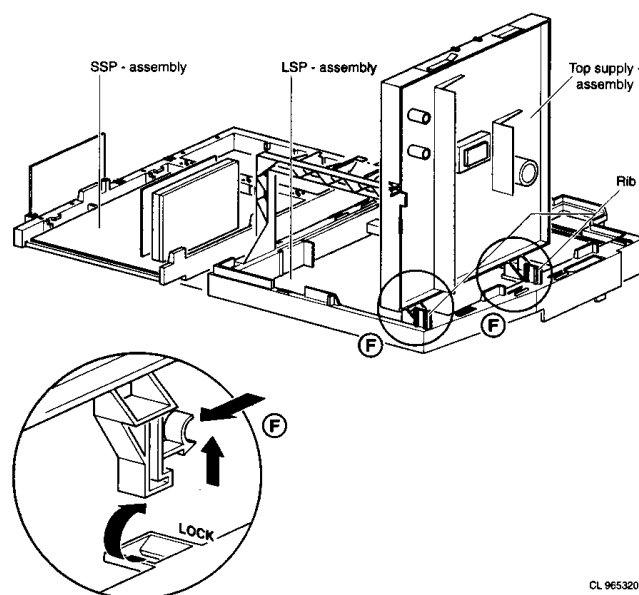

Figure 4-11
1. In this position the MCS module can be serviced from the copper side (left hand side) (see figure 4-11).
1. Release the Supply assembly out of the LSP assembly (see figure 4-11). This can be done by pulling both the release hooks (F) of the Supply bracket backwards. After a click (release), the Supply bracket can be lifted.